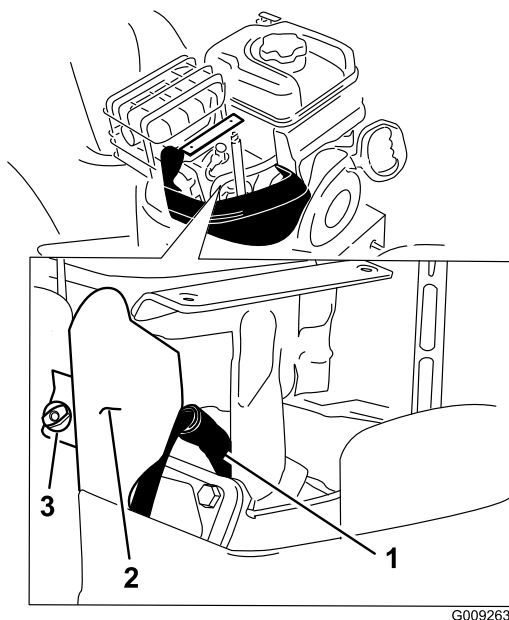

Figure 45
4. Remove the bracket thumb screw and the bracket (Figure 45).
- 5. Clean around the base of the spark plug (Figure 45).